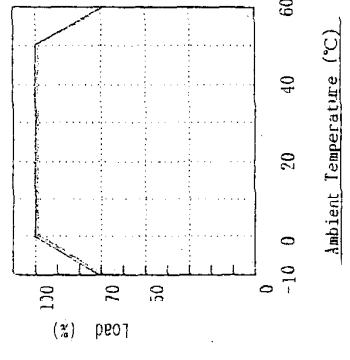

Fig. 3 Derating Curve
- * 11 : Ratings - Refer to Derating Curve on the Fig. 3.